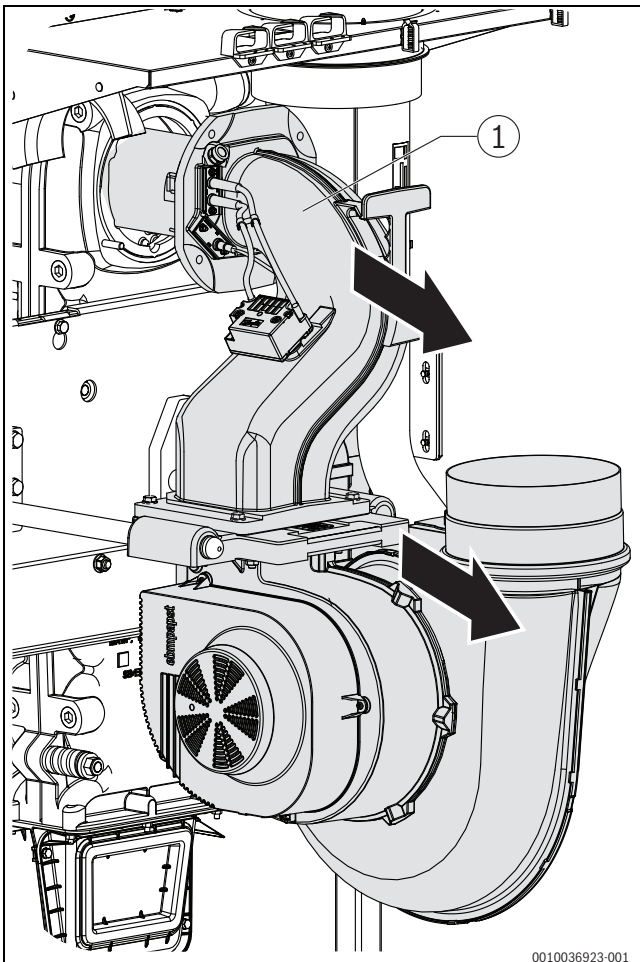

Fig. 57 Pull the burner back
- ▶ Pull the mixture manifold with burner rod and fan back to the end position (O-ring on the guide pin) (→Fig. 57).